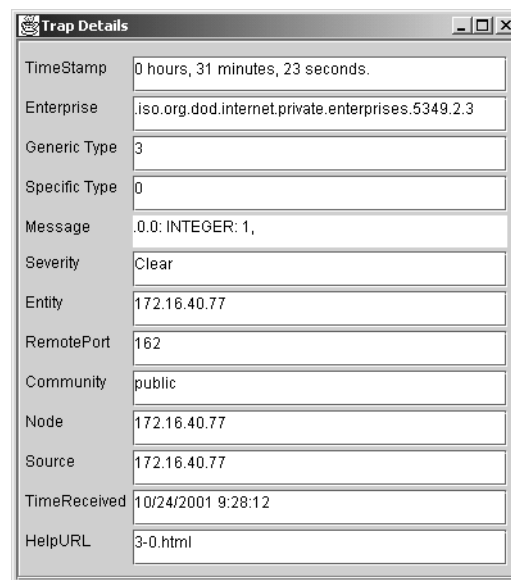

Figure 29. ManageEngine Trap Details window of TrapViewer
- The details of the traps can be viewed by clicking the *Trap Details* button or right click the trap in the trap table and select the option *View Trap Details*. figure 29 show the screen of such a trap details window.